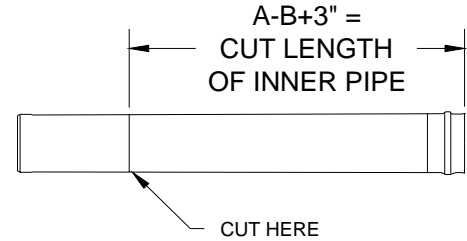

Fig. 19C - DGV Cutting of Length
5. Add 3" to the distance measured previously for the cut length of the **inner** vent pipe. Mark a cut line on the inner vent on the male end (the end without the red seal as per Figure 19C).